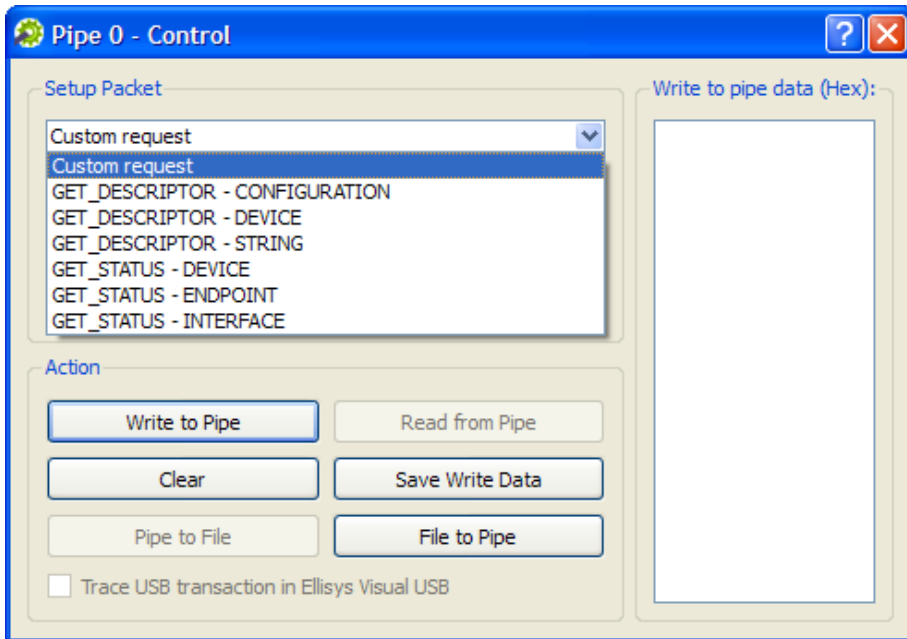

Figure 9.4 Requests List
- For a standard USB request: select a USB request from the requests list, which includes requests such as **GET_DESCRIPTOR CONFIGURATION**, **GET_DESCRIPTOR DEVICE**, **GET_STATUS DEVICE**, etc. (see Figure 9.4). The description of the selected request will be displayed in the **Request Description** box on the right hand of the dialogue window.